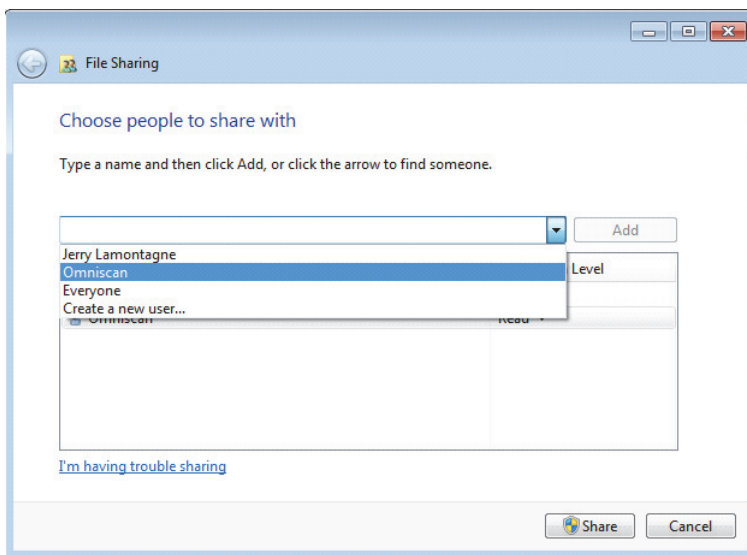

Figure 7-28 The File Sharing dialog box (Windows 7)
5. In the **File Sharing** dialog box (see Figure 7-28 on page 218), select **Omniscan**, and then click **Add**.